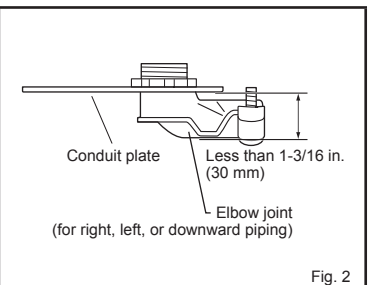

Fig. 2
- 5) Attach straight joint (for rear piping) / elbow joint (for right, left, or downward piping) to conduit plate with lock nut. The thread of the installed conduit pipe / elbow joint appearing inside should be less than 3/8 in. (10 mm). (Fig. 1) Elbow joint should appear less than 1-3/16 in. (30 mm) outside. (Fig. 2)
- Pull out the drain hose at the back left of the indoor unit. (Fig. 2)
- If the drain hose provided with the indoor unit is too short, connect it with a field-supplied drain hose (I). (Fig. 2)